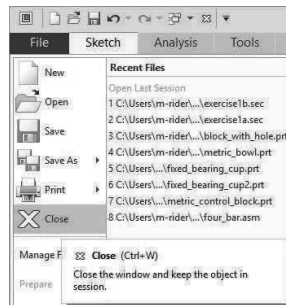

Figure 3-60 Close Window
Step 24: **File>Close** to close the window and clear the screen (Figure 3-60).